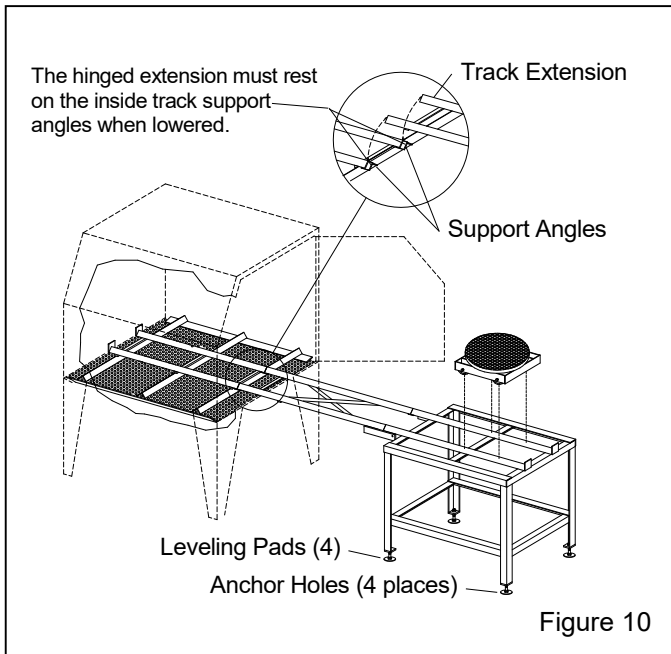

Figure 10
3.2.3 Position the track support table and extension, as shown in Figure 10. When the hinged extension is lowered, the extension tracks must rest on the angled locating supports welded to the bottom of the inside tracks, and butt against the inside tracks.